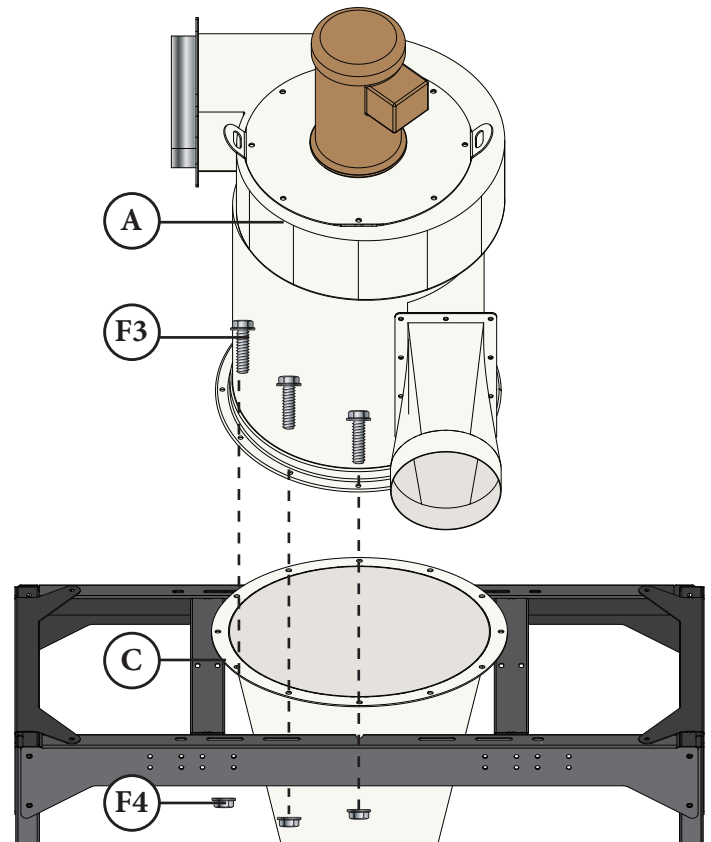

FIG. 9
Thread twelve 5/16"-18 x 1.25" Bolts (F3) through the aligned holes of the Fan Blower Assembly (A), the Cone (C), and the Stand (U). Secure each of the bolts in place using twelve 5/16" Whiz-Lock Nuts (F4) [FIG 9].